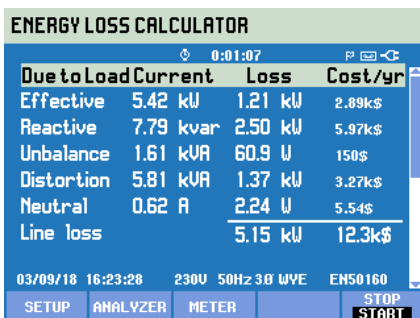

Figure 2.
- Due to the Load Current (Figure 2)